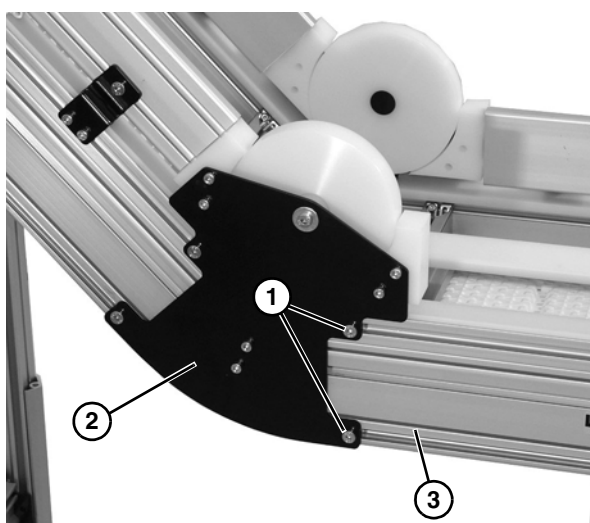

Figure 8
2. Attach lower knuckle to frame by loosening two socket head capscrews (**Figure 8, item 1**) on each side of lower knuckle assembly (**Figure 8, item 2**), and sliding T-Nuts into straight frame section (**Figure 8, item 3**).